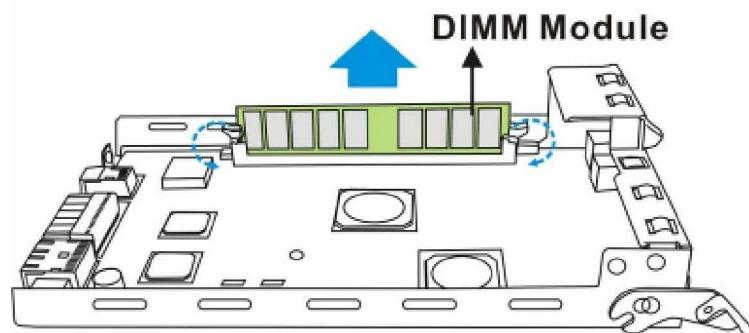

Figure 5-7: Removing the DIMM Module
Step 2. Remove the previously installed DIMM module from the DIMM socket. Pull down the white clips on either side of the DIMM module to a 45-degree angle to dislodge the DIMM module. (See Figure 5-7)